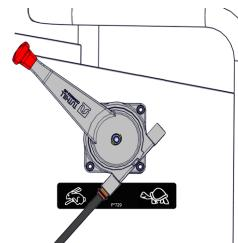

Figure 10 - Throttle Lever
1. Ensure the throttle lever is in the fast (hare) position (Figure 10).